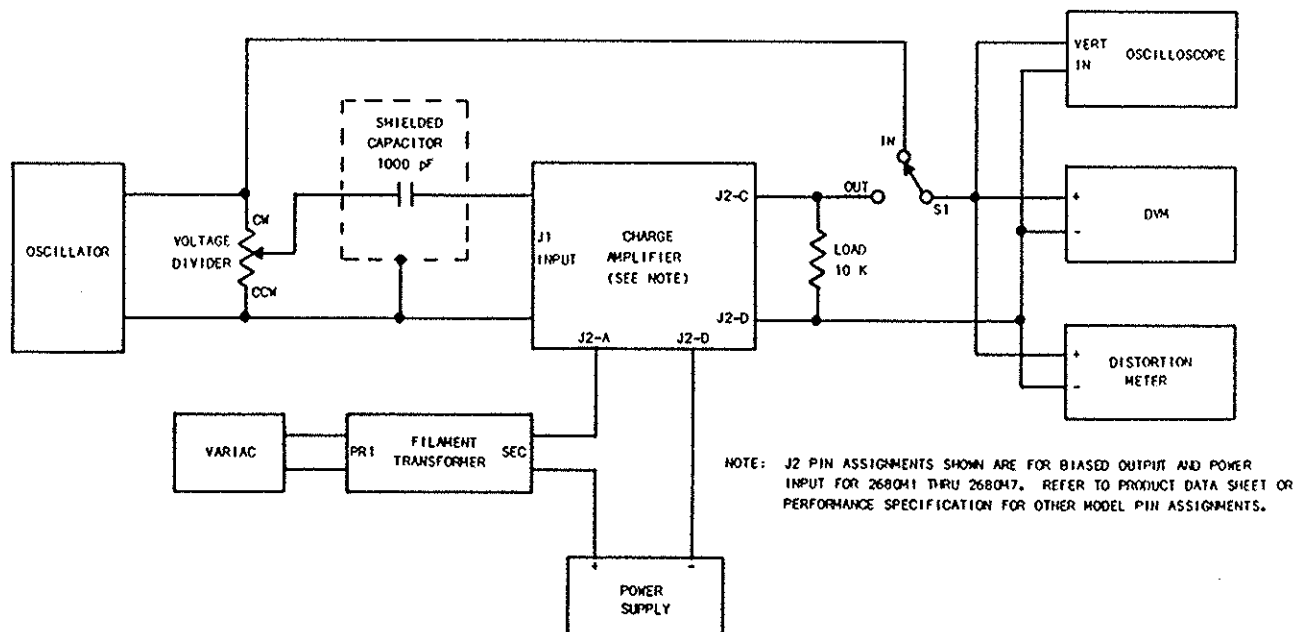

Figure 6-2. Ripple Sensitivity Test Setup.
- a. Connect equipment as shown in Figure 6-2. Ensure J2 pin assignments conform to charge amplifier being tested. See Note in Figure 6-2.